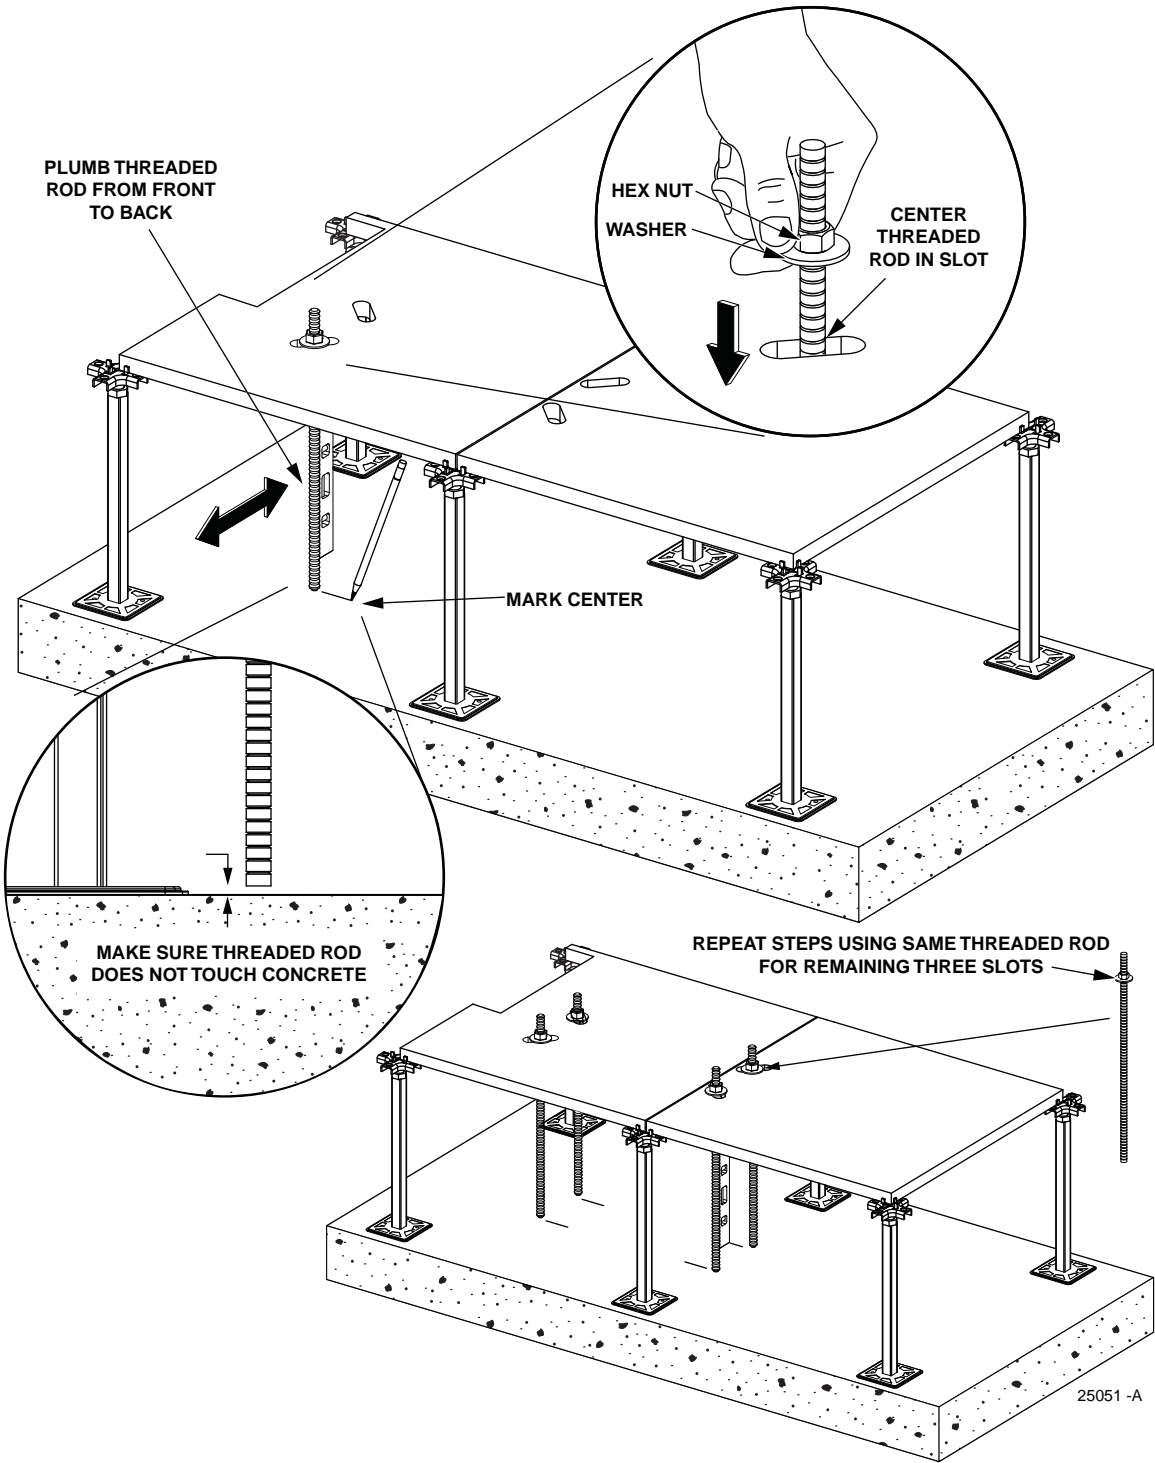

Figure 9. Marking Concrete With Threaded Rod
- 8. Assemble the washer and hex nut onto the threaded rod and insert the threaded rod in the floor tile. Plumb the threaded rods from front to back and mark concrete. Repeat these steps using the same threaded rod for the three remaining slots. Refer to Figure 9.